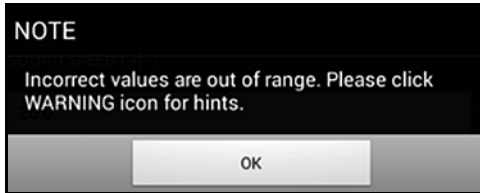

Figure 118: Out of Limits Message
7. There is an acceptable range for each of the parameters entered in this menu. If you enter a value outside of these limits a message similar to *Figure 118* below is displayed.